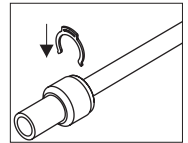

Fig. 5
- 2) Insert safety clip (Fig. 5).
- 5) Apply multiply layers of new Teflon tape (ensure that Teflon tape is winded in the opposite direction to the direction connector will be installed) (fig. 5).